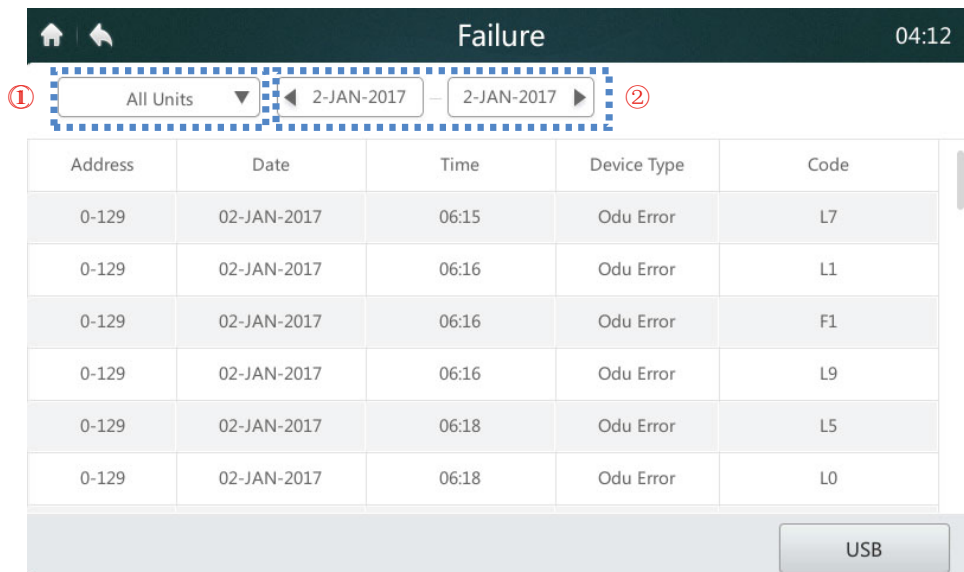

Figure 28 Homepage 1 of the Report page
1. Tap the drop-down list in the area marked "1" in Figure 28, and select the group or all the devices to be viewed.
2. Tap the area marked "2" in Figure 28 to display the date window, as shown below. Tap the left area to select the start date. Select the end date in the right area.